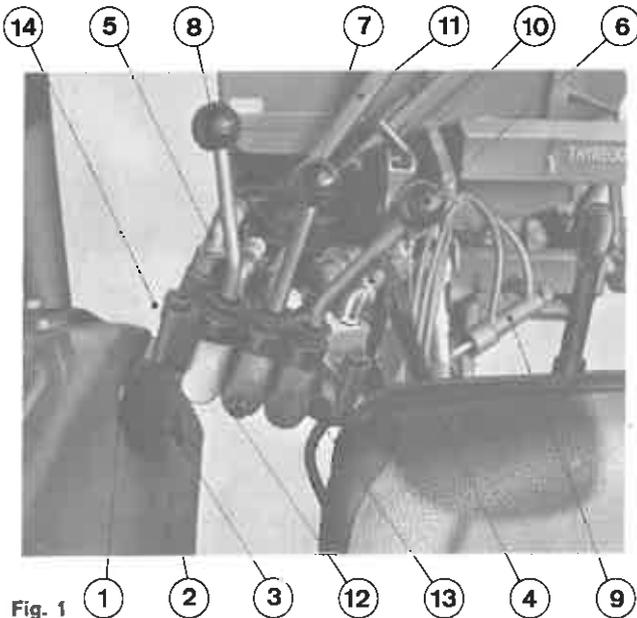

Fig. 1
**Hydraulic Valve of the Machine** is mounted on the right-hand rear mudguard of the tractor (fig. 1). The fittings (1 fig. 1) are bolted on the mudguard. The angle piece (2 fig. 1) is put together with the fittings and is locked with the screw (3 fig. 1). The pressure hose with male quick coupling (4 fig. 1) is connected to the take-off of the tractor for remote cylinder. The return hose with female quick coupling (5 fig. 1) is connected to the oil supply of the tractor through double-acting valve for remote cylinder where such a cylinder is available or by means of a threaded branch. The oil must be led below the level of the oil to avoid that the oil is mixed with air.
for remote cylinder on the tractor, under the use you have to be attentive that the lever of this valve is put into the right position so that there is pressure on the hose (4 fig. 1). If the lever is put into the wrong position pressure comes into the hose (5 fig. 1) and the O-ring sealings at the lever casings and end covers can be damaged if you operate the levers with pressure the wrong way into the valve. If at the uncoupling of the machine you forget to put the lever of the tractor into neutral position and at the same time remove the return hose first, high pressure comes also in the return channels of the valve. Therefore, it is a good rule to place the return hose first at coupling and to remove the pressure hose first at uncoupling.
**Left-hand lever** (6 fig. 1) activates the cylinder for lateral steering control (9 fig. 1). When the lever is pushed forward the machine is displaced to the right, and when the lever is pushed backward the machine is displaced to the left. In centre position the cylinder is locked in both directions.
**Central lever** (7 fig. 1) activates the cylinder for lift of the shares (10 fig. 1). When the lever is pushed forward the front end of the machine is lifted and so also the shares. When the lever is pushed backward the machine is lowered by its own weight till the shares reach the ground or the traction bar goes against stop. In central position the machine is locked in the desired height. The lowering speed can be adjusted with the screw (12 fig. 1), if the screw is turned to the right the lowering speed is reduced.
**Right hand lever** (8 fig. 1) activates cylinders for tank. When the lever is pushed forward the tank is lifted. When the lever is pushed backward the tank is lowered by its own weight and stops against the forks in the frame of the machine. In the central position the tank remains in its position. **The safety valve** (13 fig. 1) is adjusted to 175 kg/cm2 and can be readjusted by unscrewing the box nut and adjusting the screw by inside hexagon. 1/4 turn to the right increases the adjusting pressure by appr. 25 kg/cm2.